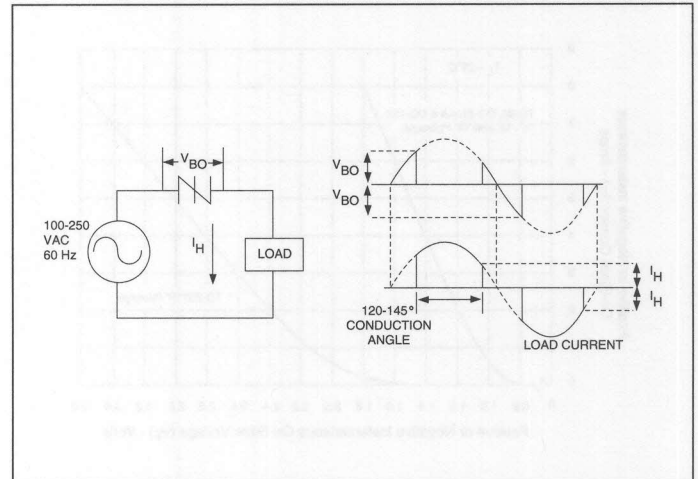

Figure 9.15 Basic Sidac Circuit
- See Figure 9.15 for clarification of Sidac operation.